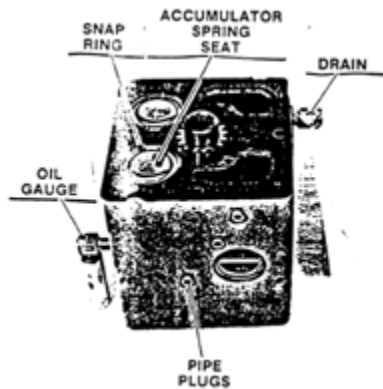

Figure 5-22. Power Case
- a. Use an arbor press to hold the spring and remove the snap ring. Slowly release the compressed accumulator spring and spring seat (Figure 5-22).